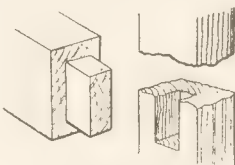
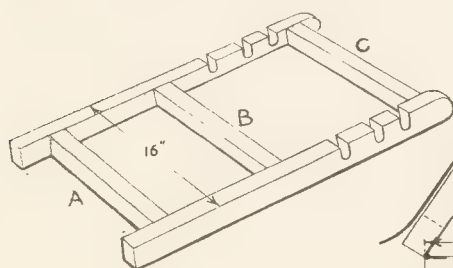
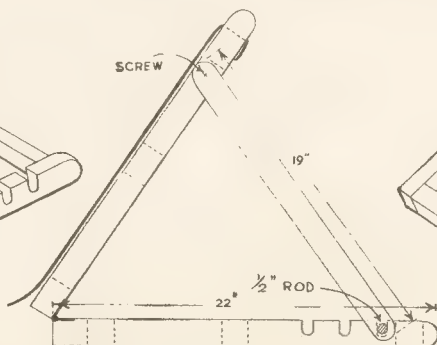

Fig. 4—The tenon joint
Fig. 2—The frame on the ground
Fig. 3—Side view showing adjustable back and slots
The serviceable wood to use would be American Whitewood, beech or birch, all both close grained and hard of surface. The ground frame can first be taken in hand, and the detail Fig. 2 gives a good idea as to its form and construction. The side view, Fig. 3, of the Rest shows this frame in position with the back rest and support frame in place.
The method of making the stub tenon is shown in Fig. 4, the ends of the cross rails being shouldered and with the tenon running half way through the long rails. The cross rail (A) in Fig. 2 should stand 2ins. in from the ends of the long rails, while rail (B) should be 6ins. from (A). The end rail (C) should be at least 1in. away from the rounded ends of the side rails.
Recesses into which the round rod of the support frame must rest, are made as shown in Fig. 3. Each recess is  $\frac{3}{4}$ in. deep with rounded end and should be
The back frame to which the canvas covering is later attached, is shown in Fig. 4. This frame is exactly the same width as the ground frame, viz., 16ins. full width with a space of 13ins. in between rails. Note the positions of the three cross rails in this frame. The middle rail is 9 $\frac{1}{2}$ ins. up from the square ends of the side rails. The cross rails are 2ins. by  $1\frac{1}{2}$ ins. in section, while the side rails are  $1\frac{1}{2}$ ins. square, and all stub tenoned and mortised together just like the ground frame. Take off all sharp edges and corners of all the rails with glasspaper.
Both frames having been completed, the next job is to hinge them together. A pair of  $1\frac{1}{2}$ in. brass hinges should be strongly attached to both frames in the manner shown in the side view Fig. 3. The flaps of the hinges are cut in or recessed so they lie flush with the surface of the rails.